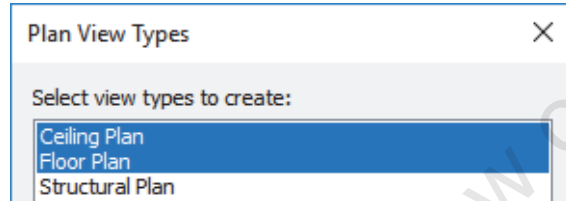

Figure 1–23
- Add three more levels above **Floor 2** with a distance of **12'-0"** between each level, and two levels below **Floor 1** with a distance of **10'-0"** between them. Rename them as shown in Figure 1–24. Click **Yes** to rename the corresponding views.